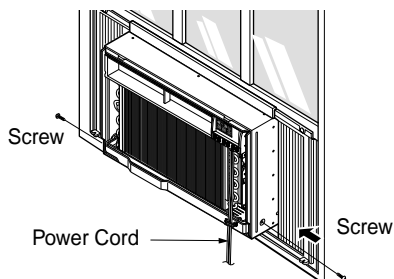

Fig. 18
- 7 Slide the unit into the cabinet.(See Fig. 18)